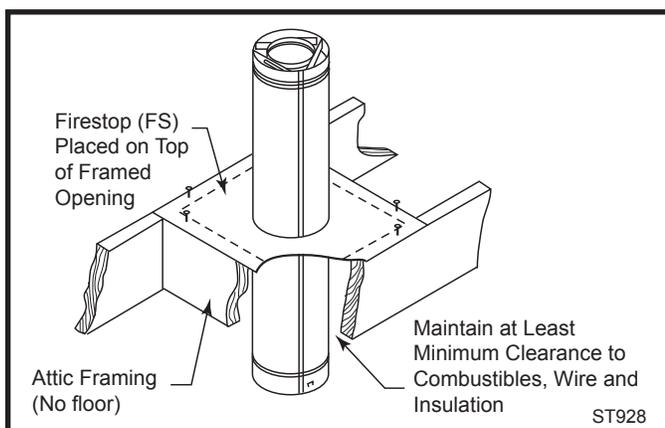

Fig. 38 Firestop spacer.
DIRECT-TEMP must be firestopped wherever it passes through floors, ceiling or walls. The only location where a firestop is not required is at the roof level. Both vertical support components with trim plates provide for firestopping. The wall thimble also acts as a firestop. At other locations, a firestop spacer (FS) should be installed. In the attic the firestop should be placed on top of the joist framing to prevent debris from falling into the joist framing. (Fig. 38)